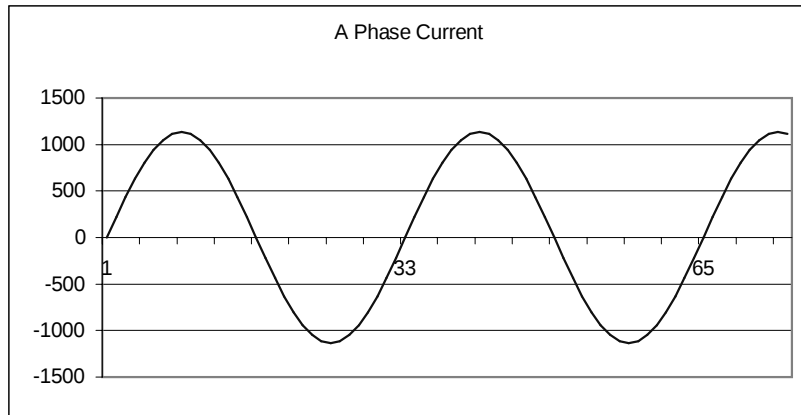

Figure 1.10: Non-distorted current waveform
- Harmonic distortion is primarily the result of high concentrations of non-linear loads. Devices such as computer power supplies, variable speed drives and fluorescent light ballasts make current demands that do not match the sinusoidal waveform of AC electricity. As a result, the current waveform feeding these loads is periodic but not sinusoidal. Figure 1.10 shows a normal, sinusoidal current waveform. This example has no distortion.
- Figure 1.11 shows a current waveform with a slight amount of harmonic distortion. The waveform is still periodic and is fluctuating at the normal 60 Hz frequency. However, the waveform is not a smooth sinusoidal form as seen in Figure 1.10.